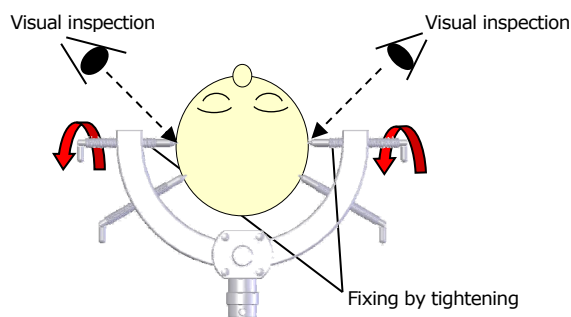

Fig.3
- (3) Finally turn the Ti head pins 1/4 to 1/2 rotation which were provisionally fixed to tighten them further (Figure 3). **Excessive over-tightening by the Ti head pin may result in harm to the patient (e.g. cracks, depressions, or penetrations in the skull or lacerations of the skin). Be sure to tighten the Ti head pin with utmost care.**